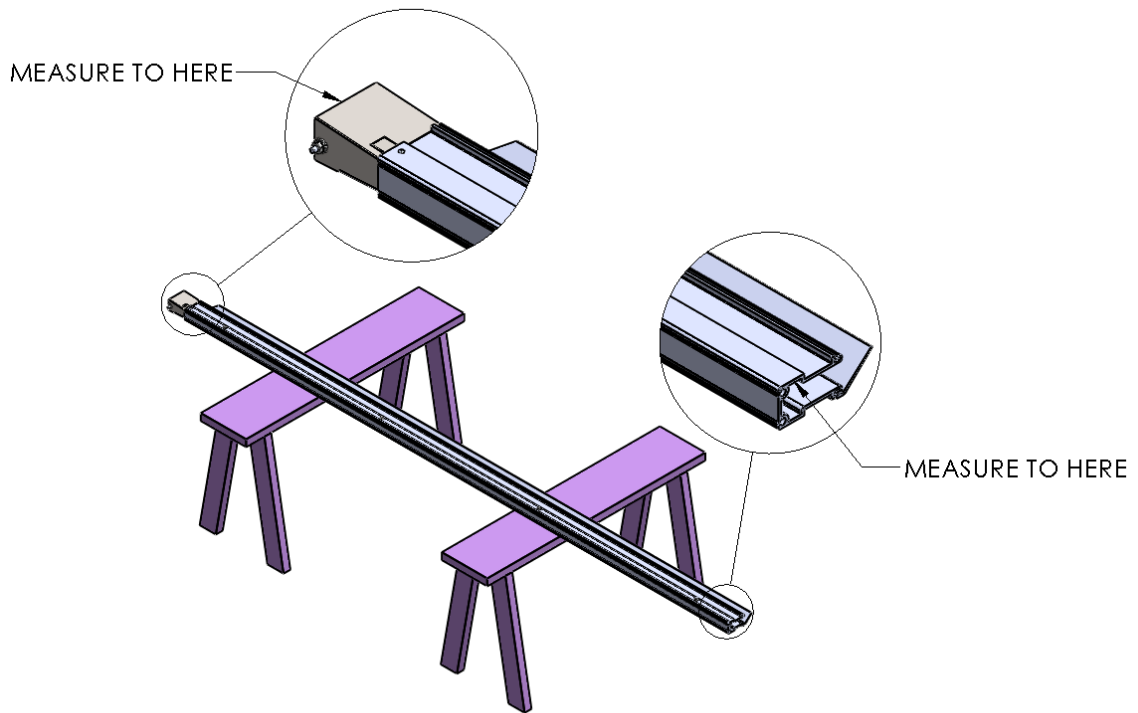
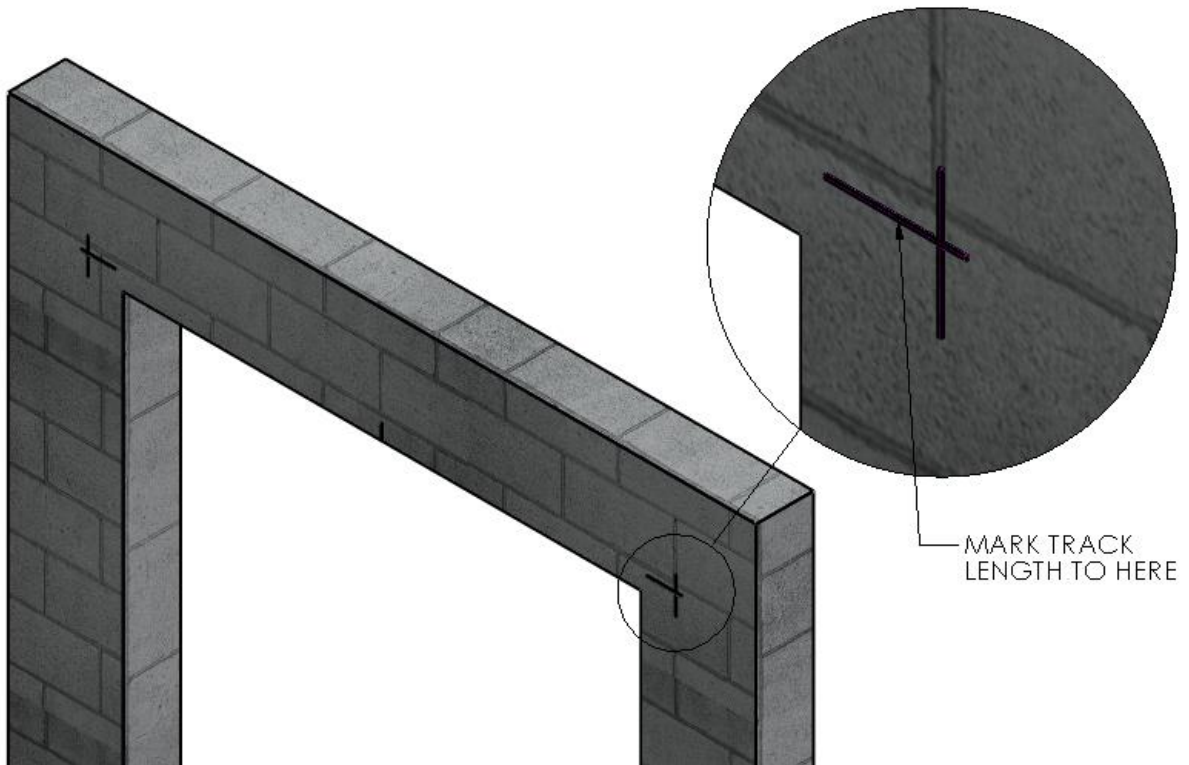

Figure 4 MEASURE TRACK HEIGHT
Figure 5 MARK TRACK HEIGHT
5. Set one of the Vertical Track Assemblies on your work surface and measure its overall length, from track end to the outer edge of the metal transition piece at the other end. Add  $\frac{1}{4}$ " to this number and take note. This is the height dimension needed to mark the location of the bottom edges of the upper mount flanges. With that number, add a horizontal line on each side that intersects the previously drawn vertical line marking the overall width of the roll assembly. (Figure 4 MEASURE TRACK HEIGHT) (Figure 5 MARK TRACK HEIGHT)
6. Using two (2) people, and two ladders at minimum, raise the Header Assembly to fit between, and above, your markings on the wall. Trace the insides of its oval mounting slots onto the wall mount surface (a Sharpe permanent marker works great for this). Be sure that that its bottom edge is on the height line, and that the outer edge is on your vertical overall width line.
7. Predrill through the centers of the traced locations for the mounting hardware, three (3) pilot holes on each side. Using adequate mounting screws or bolts (depending on your building/surface material) attach the header offset brackets to each side of the opening.